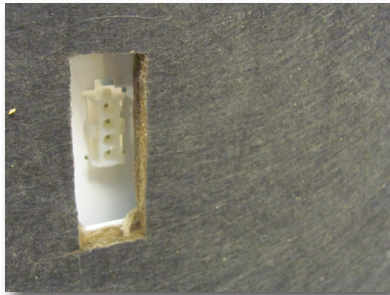

Fig. 10a
- 10.** Plug in the 4-prong motor plug (male) into the female connection on the bottom side of the external box. (Figs. 10a-10c)